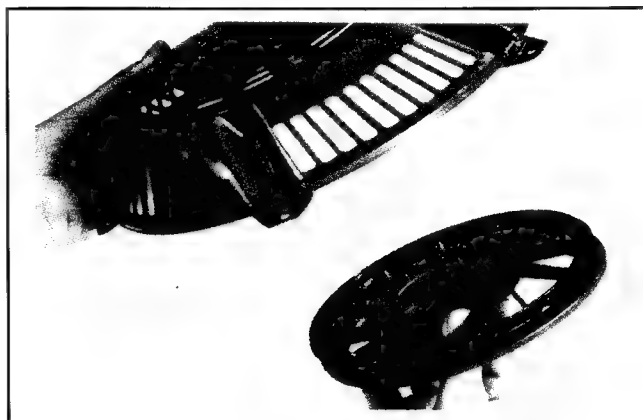

Figure 7-9. Installing Pulley and Spring into Housing.
1. Make sure the spring is well lubricated with grease. Place the spring and keeper assembly inside the pulley (with spring towards pulley). See Figure 7-9.
2. Install the pulley with spring and keeper assembly into the starter housing. See Figure 7-9.